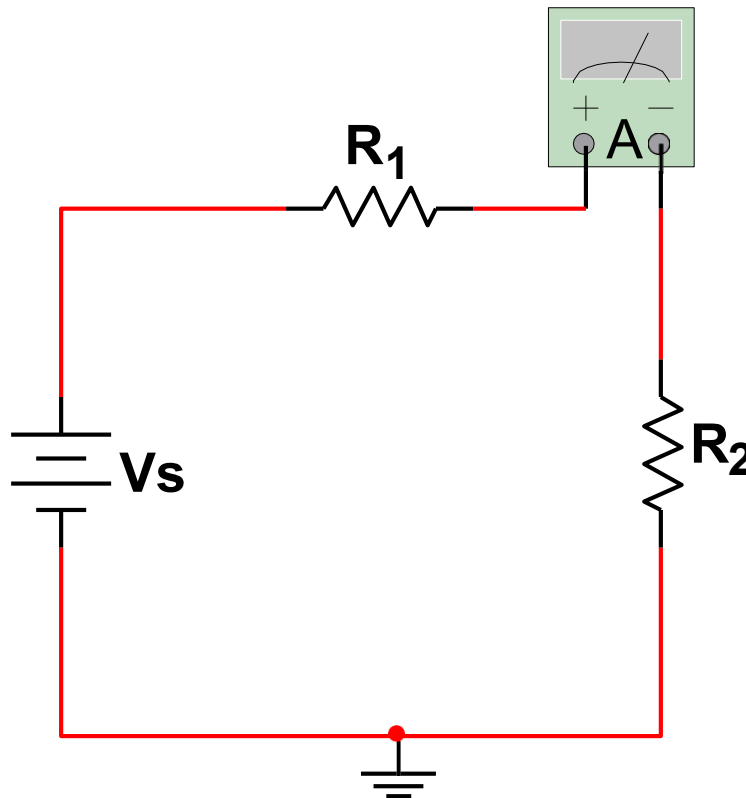

Figure 4 – DMM in Series Measuring Current Through Circuit
Current is measured **through** an electrical device. It must be measured in an entirely different way than voltage is measured. **Figure 4** shows a circuit with two resistors. After building the circuit on a breadboard, if we wish to measure the current through resistor R_1 , we need to **BREAK** the circuit where we wish to measure the current. We would do the following using the DMM:
- a. In **Figure 4**, we would **disconnect/break** the circuit between resistors R_1 and R_2 .